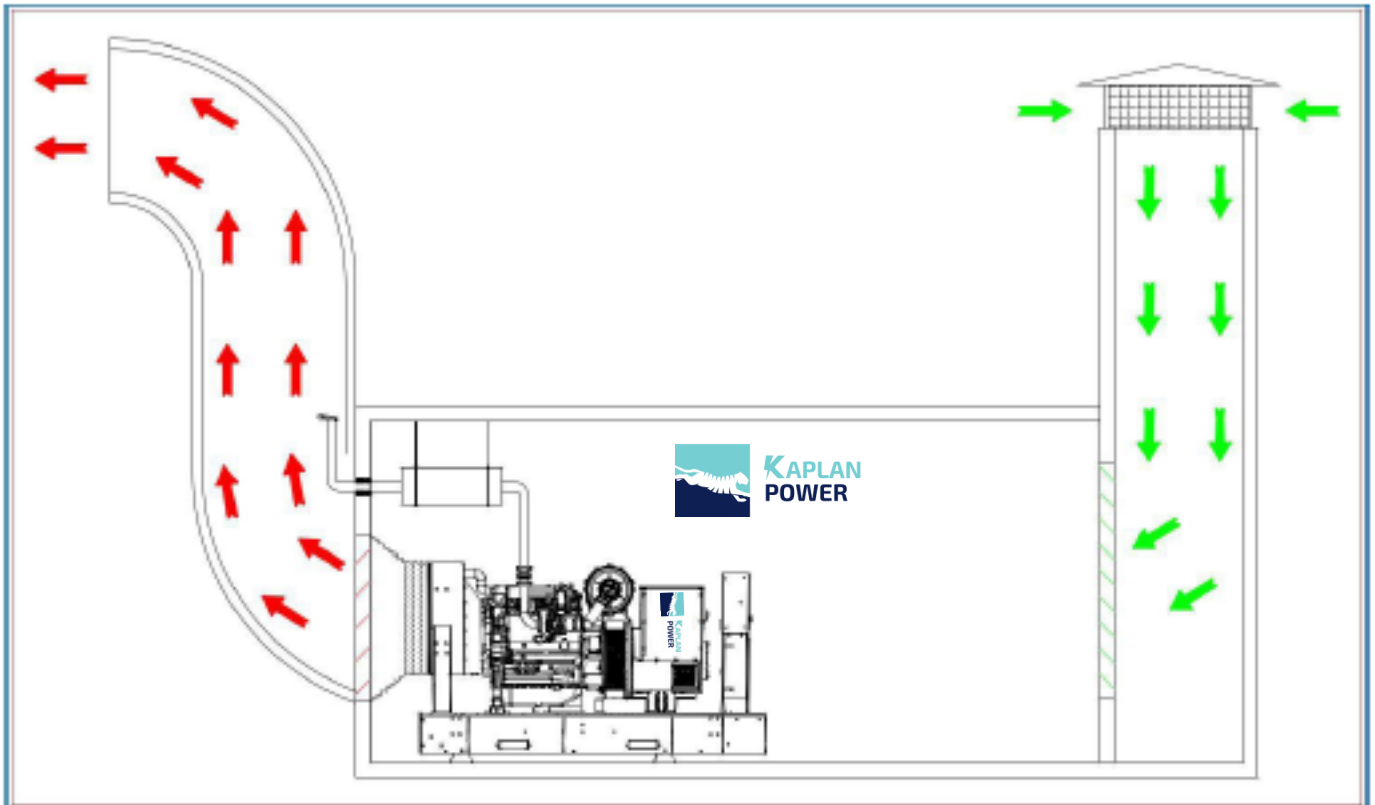

Figure-9 Basement installation plan of a typical generator set
- If the generator shall be placed outdoors, it shall be placed inside a cabinet or a room. Also, using a cabinet shall be beneficent if the generator shall be operated indoors or outdoors temporarily. Basement installation plan of a typical generator set is given in Figure-9.